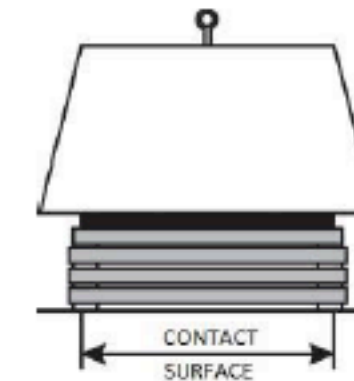

Figure 8 – Initial Surface Contact
5.4.1 Position the air bag in a prearranged place or on a constructed foundation (see Figure 8).